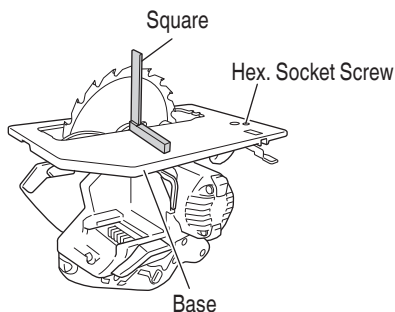

Fig. 34
6. Adjusting the base and saw blade to maintain perpendicularity (Fig. 34)
- (1) Turn the base face up (Fig. 34) and loosen the lever (A).
- (2) Apply a square to the base and the saw blade and, turning the Hex. socket screw with a 3 mm Hex. bar wrench, shift the position of the base to produce the desired right angle.